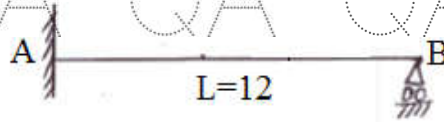

Figure 7
10. Draw the IL for reaction at B and for the support moment M_A at A for the propped cantilever AB of 12m as shown in figure 7. Compute influence line coordinates at 1.5 m intervals. [10]